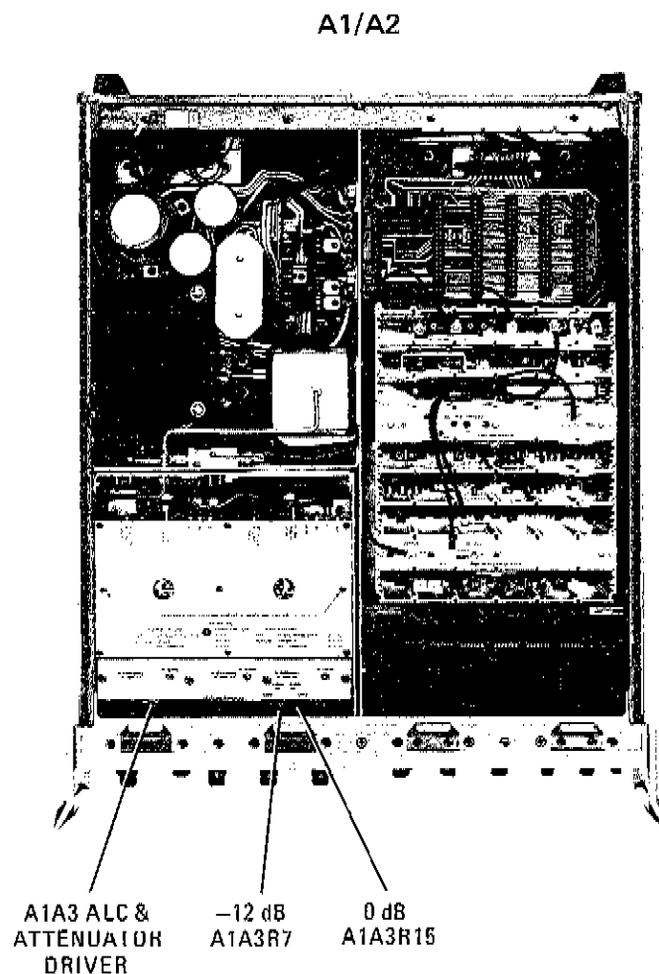

Figure A5-6. Power Output Adjustment Controls
- c. Adjust 0 dB control A1A3R15 (Figure A5-6) for 0 dBm indication on power meter.